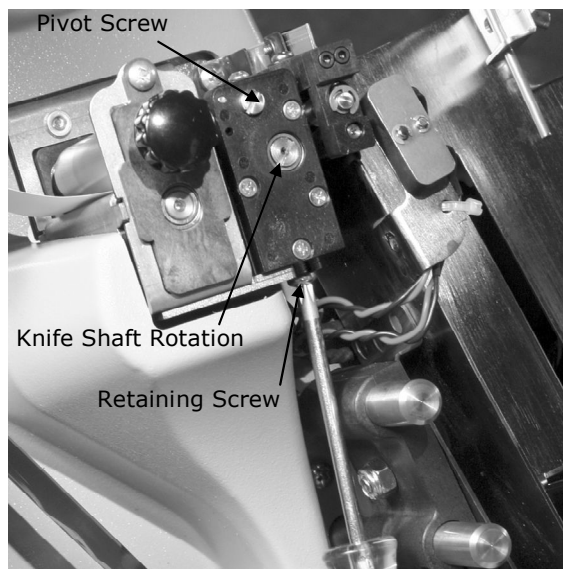

Figure 18a. Outboard End View of Knife
3. Using a Phillip's head screwdriver, loosen but do not completely remove, the retaining screw on the outboard end of the knife (see Fig. 18a). It is actually better if you leave the retaining screw in so you will have a place to lift the outboard end of the assembly.
2. Remove the knife assembly from the printer as described in Section 4.4.1. Refer to Figures 18a and 18b.